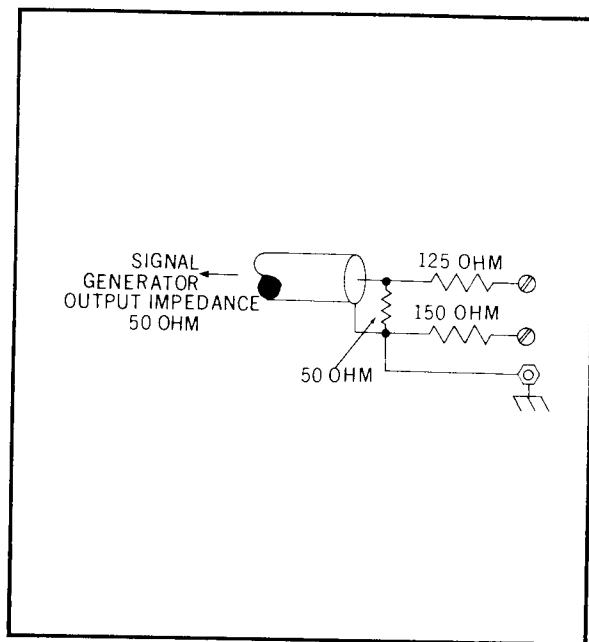

Figure 9. 300-Ohm Dummy Antenna
One 300-ohm dummy antenna (see Figure 9)
16. Connect the signal generator output through the 300 Ω dummy antenna to the FM 300 Ω antenna terminals on the rear of the receiver as shown in Figure 9.
20. Reduce the signal generator output level across the 50 Ω resistor (see Figure 9) to about 4 μ V.
26. Adjust the signal generator output level at 50 ohm (Figure 9) to 10 μ V.